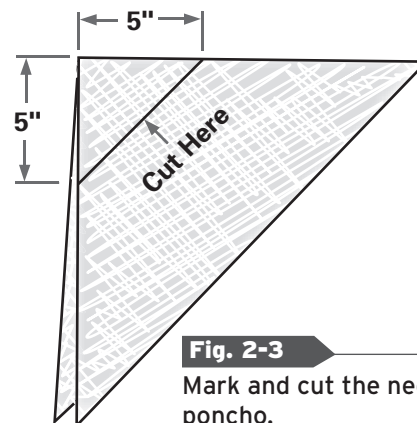

Fig. 2-3
3. Measure and mark 5 inches (12.5 cm) from the inner folded corner on each side of the triangle. Use a yardstick or measuring stick to draw a line to connect the marks. Cut along the marked line to create the neck opening of the poncho. (Fig. 2-3) (Note: If you need a slightly larger neck opening, measure and mark 6 inches (15 cm) from the inner folded corner on each side.)